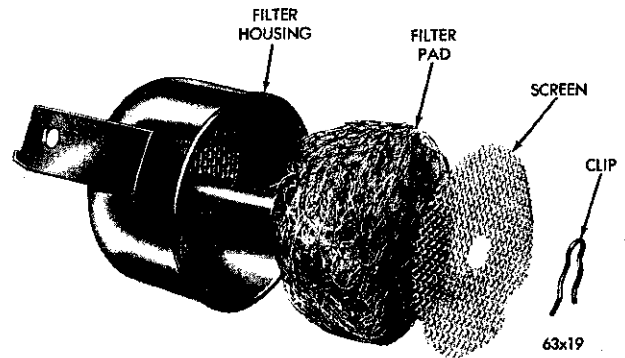

Fig. 37—Air Filter Assembly
It breathes through an air filter assembly mounted inside of the left front fender side shield just under the battery tray. A strap integral with the filter housing serves as a mounting bracket (Fig. 37).
(8) The slave piston assembly is serviced as an assembly. Within the piston body there is a loose fitting plug, a plug return spring, and a snap ring. It may be disassembled for cleaning and inspection by removing the snap ring. The plug has a rubber disc inserted in its inner face which, when the brakes are applied, blocks off the orifice that leads to the slave cylinder chamber. Remove the two bleeder screws from the side of the slave cylinder housing to facilitate cleaning. Disassemble the air cleaner by removing the retaining clip, screen and hair pad (Fig. 37).